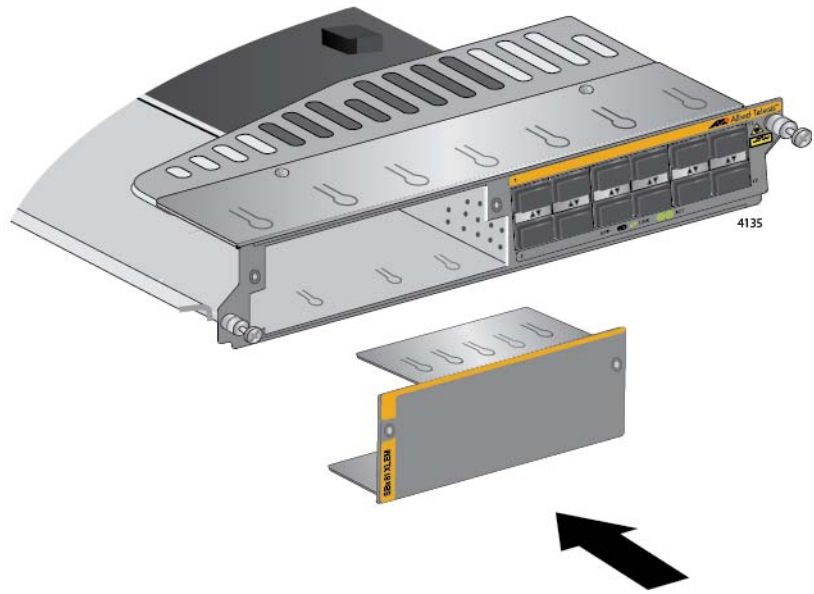

Figure 183. Sliding the Blank Slot Cover into the AT-SBx81XLEM Line Card
9. Slide the blank slot cover that comes with the line card into the slot on the card. Refer to Figure 183 on page 293.